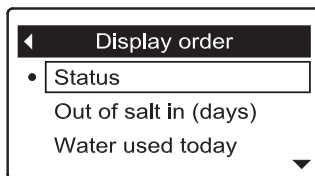

FIG. 121
4. Press the SELECT (○) button to display the Display order screen (See Figure 121).